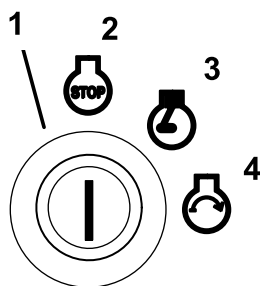

Figure 14
6. Turn the ignition key clockwise to the run position (Figure 14).
- Turn the key to the start position and the glow plug indicator light will come back on. When the engine starts, release the key (Figure 14).
- Turn the ignition key clockwise to the run position (Figure 14).
4. Turn the ignition key to the off position (Figure 14). Wait for all moving parts to stop before leaving the operating position.